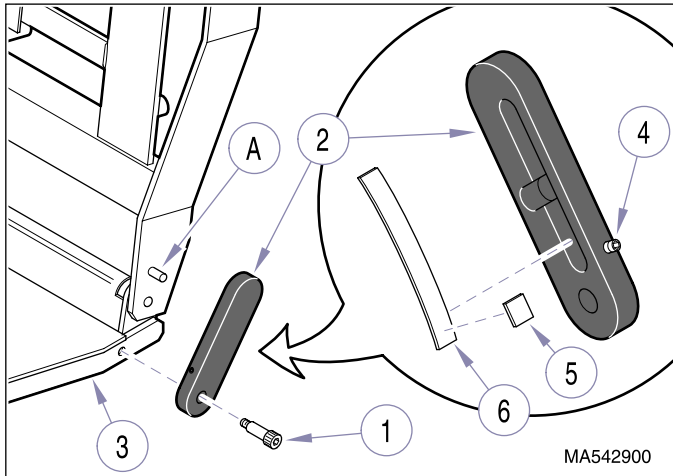

Figure 4-28. Footlatch Spring Removal / Installation
- (1) Remove shoulder screw (1, Figure 4-28) and foot platform lever (2) from foot platform (3).
- (2) Loosen setscrew (4) and remove spring lock pad (5) and footlatch spring (6) from foot platform lever (2).